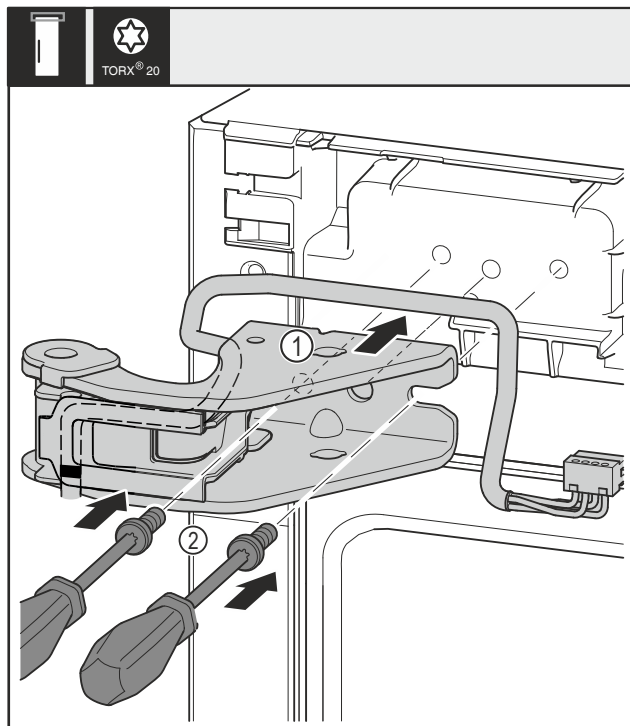

Fig. 32
- ▶ Place the top swap bearing block Fig. 32 (1).
- ▶ Use screwdriver to insert the screws Fig. 32 (2) and tighten them.